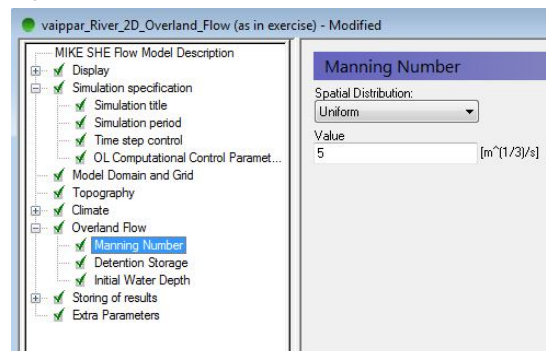

Figure 121: Overland flow parameters
- Browse to the 'Overland Flow' node (See Figure 121)